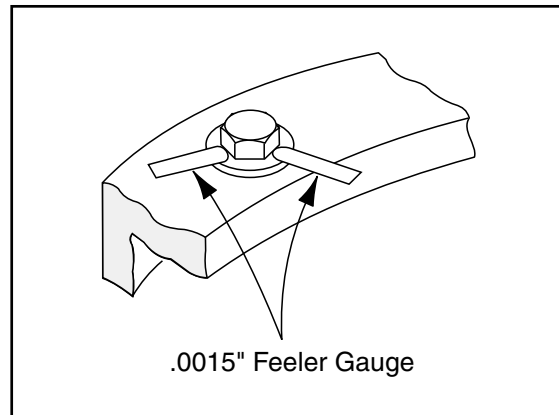

Figure 2-15. Swing Bearing Bolt Feeler Gauge Check
2. At the positions indicated on Figure 2-15., Swing Bearing Bolt Feeler Gauge Check, try and insert the .0015" feeler gauge between the bolt head and hardened washer at the arrow indicated position.
4. At the position indicated on Figure 2-15., Swing Bearing Bolt Feeler Gauge Check, try and insert the .0015" feeler gauge between the bolt head and hardened washer at the arrow indicated position.